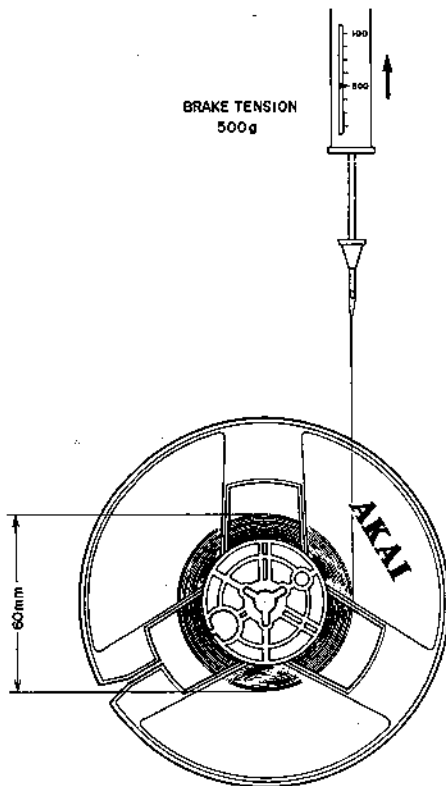

Fig. 11
1) As shown in Fig. 11, for brake tension adjustment, use a 60 mm diameter of tape wound on an empty 5" reel, and measure with a spring scale. Correct brake tension is 500 gr.